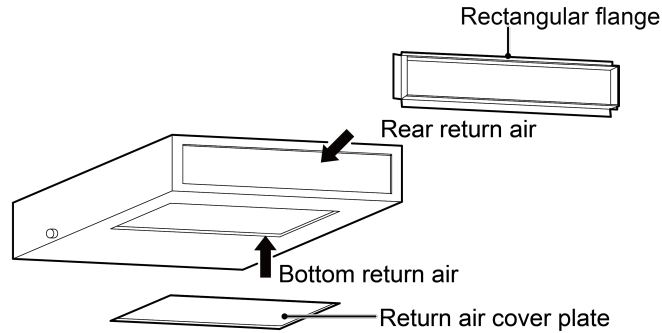

Fig.4.4.5
- (1) The default installation location of the rectangular flange is at the back and the return air cover plate is at the bottom, as shown in Fig.4.4.5.